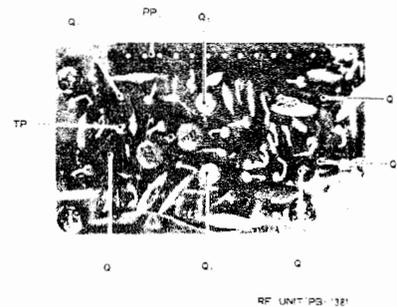

Fig. 19
- (9) Connect the RF probe of the VTVM to TP terminal "RF" near Q7 of the RF unit. (Refer to Fig. 19)
- (10) Set the BAND switch to 7.0 MHz band, and the VFO dial to 250 KHz.